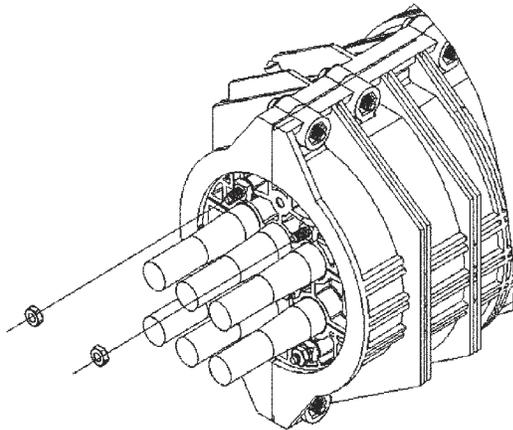

FIGURE 50 - REMOVE HEX NUTS
17.02 Remove one hex nut from each of the two upper ground inserts. (Figure 50)